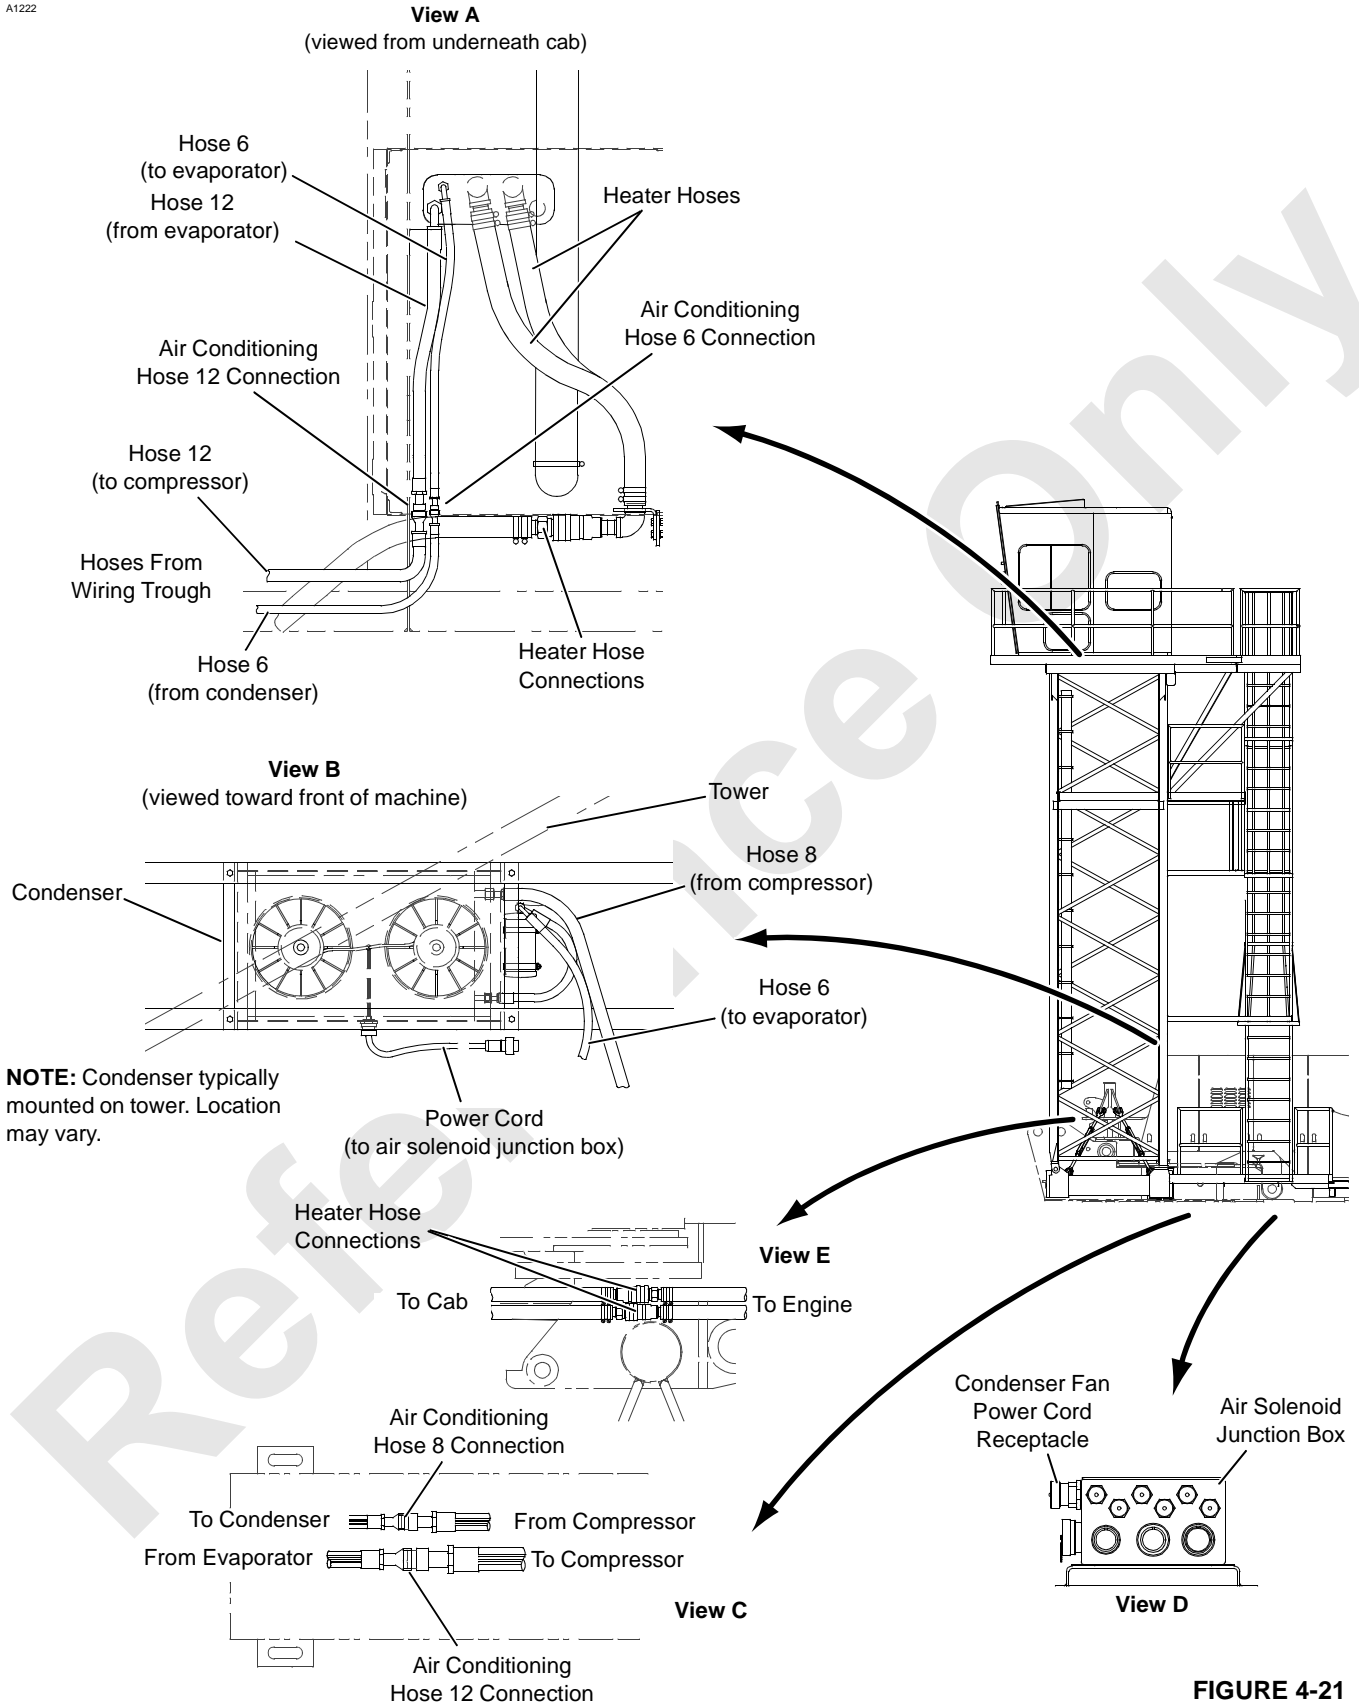

FIGURE 4-21
5. Make air conditioning system connections (Figure 4-21). Air conditioning hoses have quick disconnects.
- Power cord from condenser fans (Figure 4-21, View B) to terminal on air solenoid junction box (View D). Install dust cap.
- Heater hoses (Figure 4-21, View E).
- Air conditioning hoses 8 and 12 (Figure 4-21, View C).
- Heater hoses (Figure 4-21, View A).
- Air conditioning hoses 6 and 12 (Figure 4-21, View A).